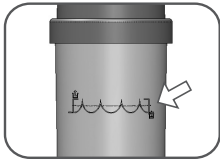

fig. 1
- To fill the water reservoir (fig. 1):